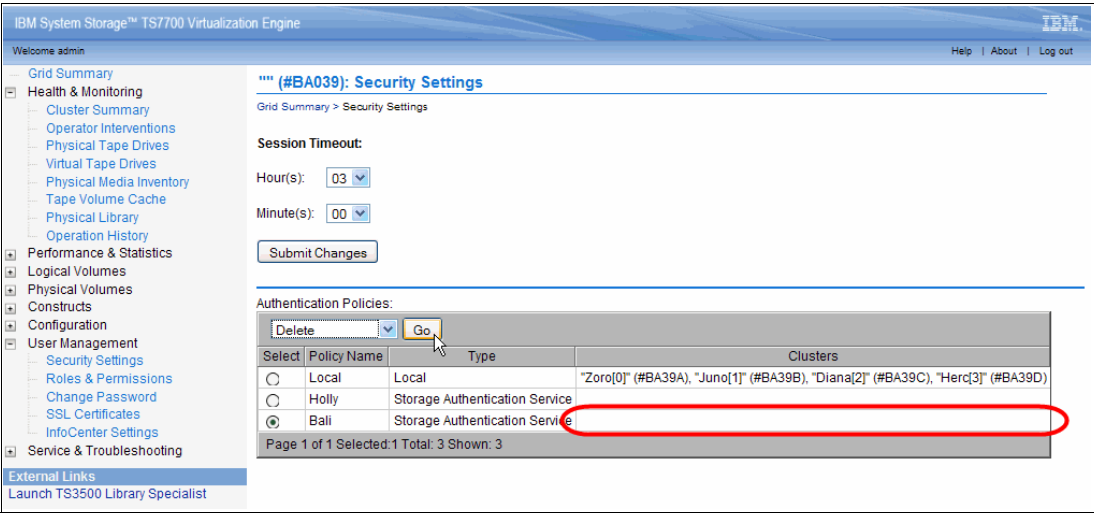

Figure 8-74 Deleting a Storage Authentication Service Policy
You can delete a Storage Authentication Service policy if it is not in force on any cluster. You cannot delete the Local policy. In the Authentication Policies table in Figure 8-74 no clusters are assigned to the policy to be deleted, therefore the policy can be deleted. If clusters are assigned to the policy, use **Modify** from the Select Action drop down to remove the assigned clusters.
2. In the Authentication Policies table, select **Delete** from the Select Action drop-down menu as shown Figure 8-74 on page 513. From the Security Settings page, navigate to the Authentication Policies table and perform the following steps: